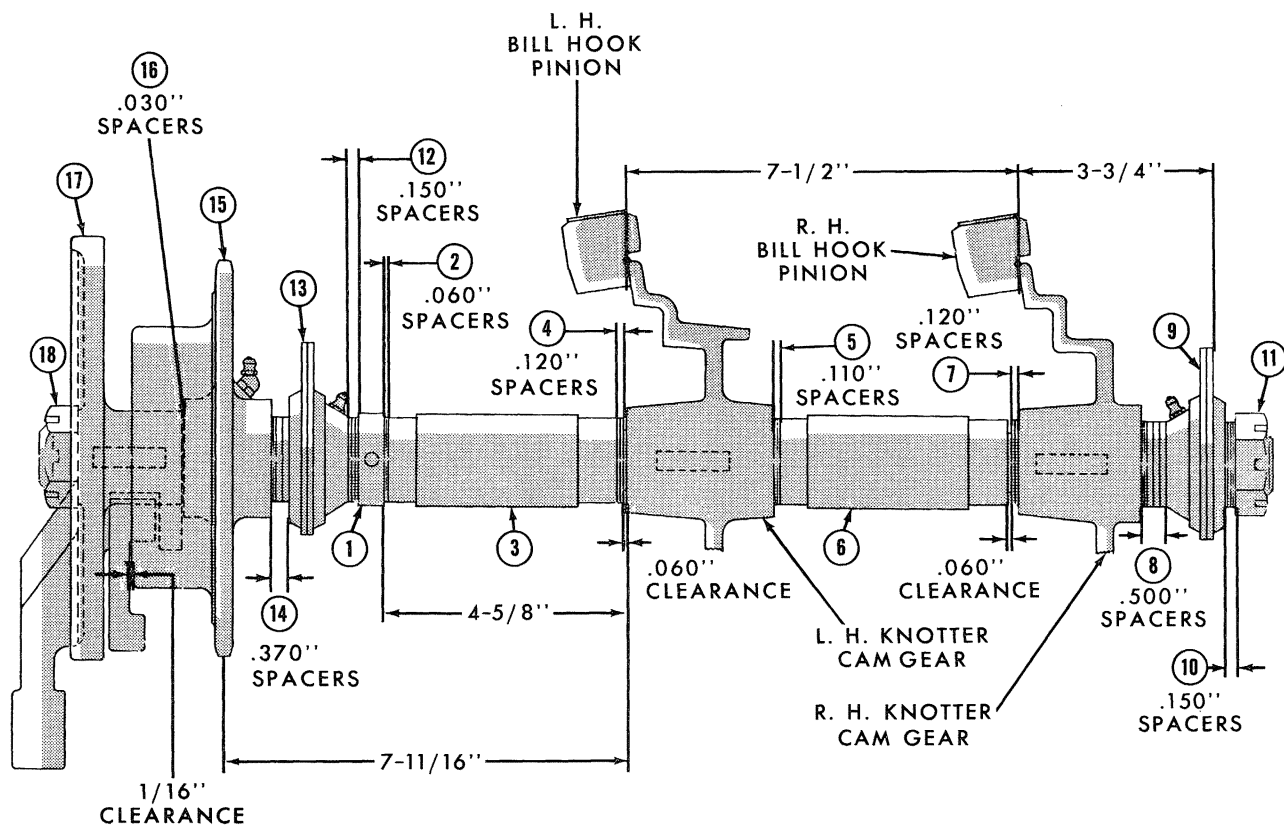

Figure 97
reassemble and install it per the following procedure and in the order listed. Doing so will prevent time consuming trial and error assembly methods. Refer to Figures 97 and 98 during the assembly procedure.
1. Install the locking collar (1), Figure 97, on the knotter shaft by installing the rolled pin through the collar and shaft.
2. Working from left to right, install approximately .060" spacers (2), on the shaft, then install the left-hand knotter frame assembly (3).
3. Install 0.120" spacers (4), on the shaft, then install the key and the left-hand knotter cam gear. Make certain the gear slides freely over the key. The gear must be free to move laterally when all of the components are assembled on the knotter shaft.
4. Slide the cam gear to the left so that the machined face of the gear contacts the flat of the left-hand bill hook pinion. Measure the 4-5/8" dimension from the face of the collar to the hub of the left-hand knotter cam gear. A tolerance of plus or minus 1/32" is permissible. If necessary, add or remove the knotter spacers (2), to obtain the 4-5/8" dimension.
11. Tighten the adjusting nut (11), Figure 97, to remove all end play in the knotter stack, then loosen the nut 1/12 to 3/12 of a turn and install the cotter pin through the nut and shaft. If the cotter pin cannot be installed, it may be necessary to remove one or more of the spacers (10).
13. Install .150" spacers (12), Figure 97, next to the collar (1), then slide the left-hand flanged bearing assembly (13) on the shaft.
15. Install approximately 0.370" spacers (14), Figure 97, on the knotted shaft, then install the clutch sprocket (15).
16. Measure the 7-11/16" dimension between the machined surface of the left-hand knotted cam gear and the center of the teeth on the clutch sprocket, while holding the sprocket against the spacers (14). The dimension is used to determine if the clutch sprocket is properly aligned with the drive sprocket. A tolerance of plus or minus 1/32" is acceptable. If necessary, remove the